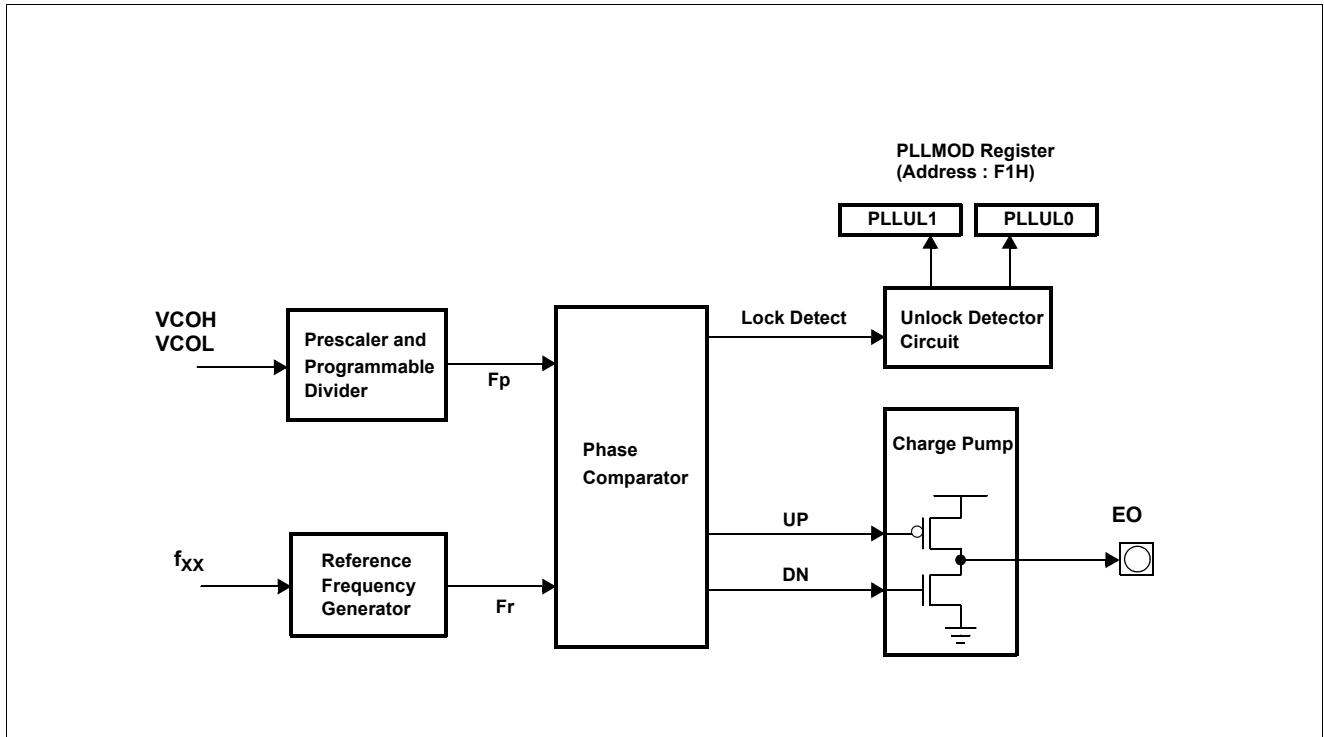

Figure 3-41 Phase Comparator, Charge Pump and Unlock Detector Circuit Configuration
Figure 3-41 shows the phase comparator, charge pump and unlock detector circuit configuration. The phase comparator compares the phase of frequency division output  $f_N$  from a programmable divider and that of reference frequency output  $f_r$  from a reference frequency generator and outputs up request (UPB) and down request (DWB) signals. The charge pump outputs the output of the phase comparator from error output pin (EO). The unlock detector circuit consisting of unlock flip-flop detects the unlock state of a PLL frequency synthesizer.
As shown in Figure 3-41, the comparator compares the phase of frequency division output “ $f_N$ ” from a programmable divider and that of reference frequency output  $f_r$  from a reference frequency generator and outputs up request (UP) and down request (DN) signal. The UP signal is activated to low if divided frequency  $f_N$  is higher than reference frequency  $f_r$ . The DN signal is activated to high if the former is lower than the latter.
As shown in Figure 3-41, the charge pump outputs the UP and DN signal from a phase comparator from error output pins.
As shown in Figure 3-41, the unlock detector circuit detects the unlock state of a PLL frequency synthesizer using the up and down request signals from a phase comparator.